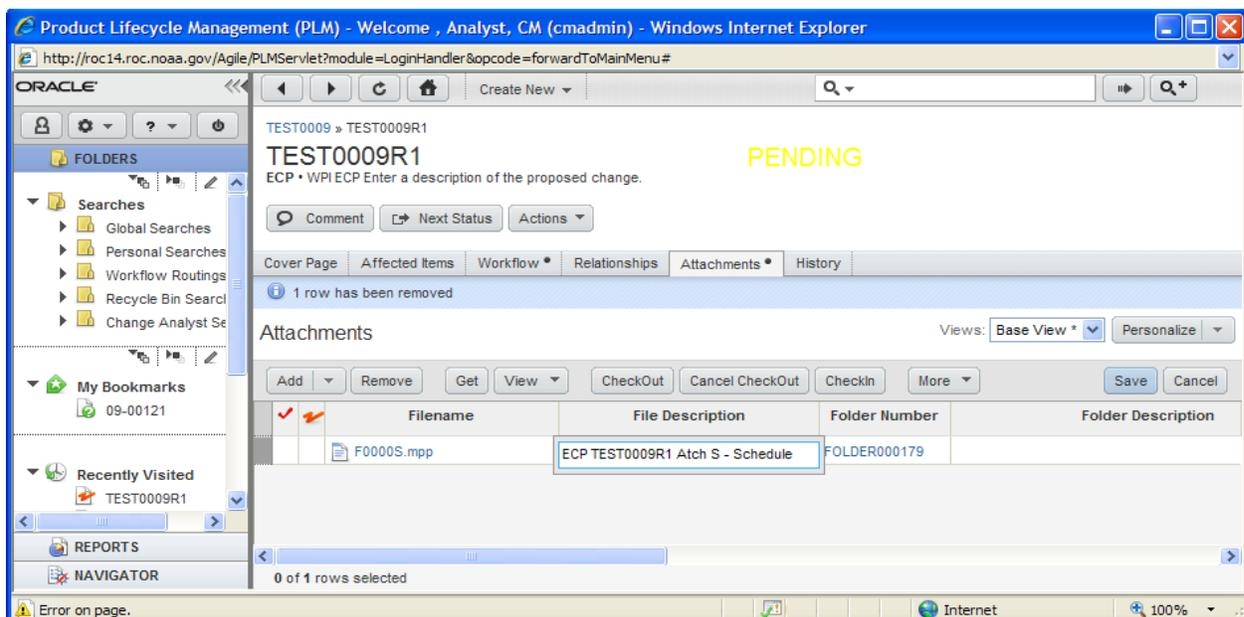

Figure 47: File description added.
- o. Enter a **description** of the file in the **File Description** block on the Attachments tab by double-clicking the white file description block (Figure 47). This will cause a blue line to appear around the block. Type in a description using the following naming convention: